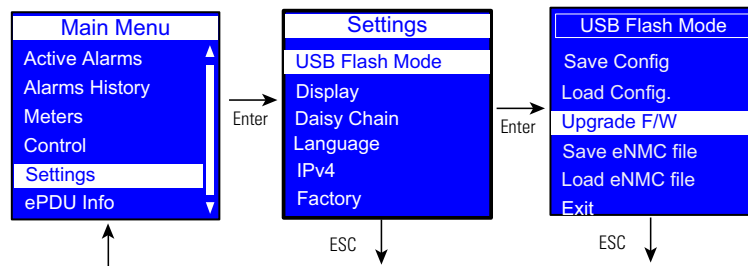

Figure 76. Example Select Upgrade Firmware
8. Select Upgrade FW and click **OK** to confirm the upgrade (see Figure 76). The eNMC module gets the file from the USB drive.